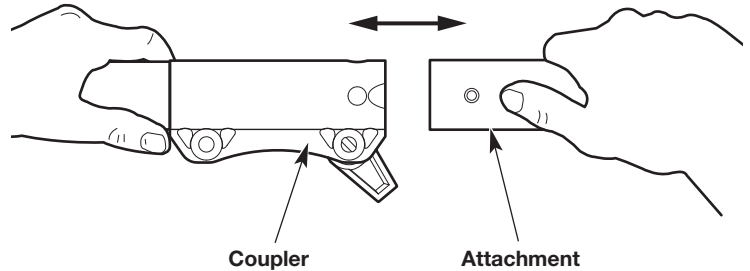
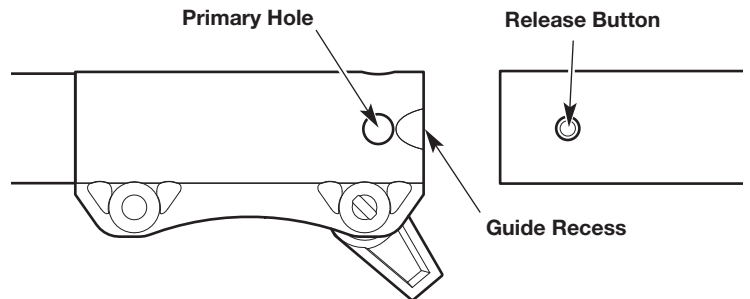

Fig. 8
Fig. 9
4. Align the release button with the guide recess (Fig. 9).
5. Push the attachment straight into the coupler (Fig. 8) until the release button snaps firmly into the primary hole (Fig. 9).
3. Press and hold the release button (Fig. 9).
4. Pull the attachment straight out of the coupler (Fig. 8).